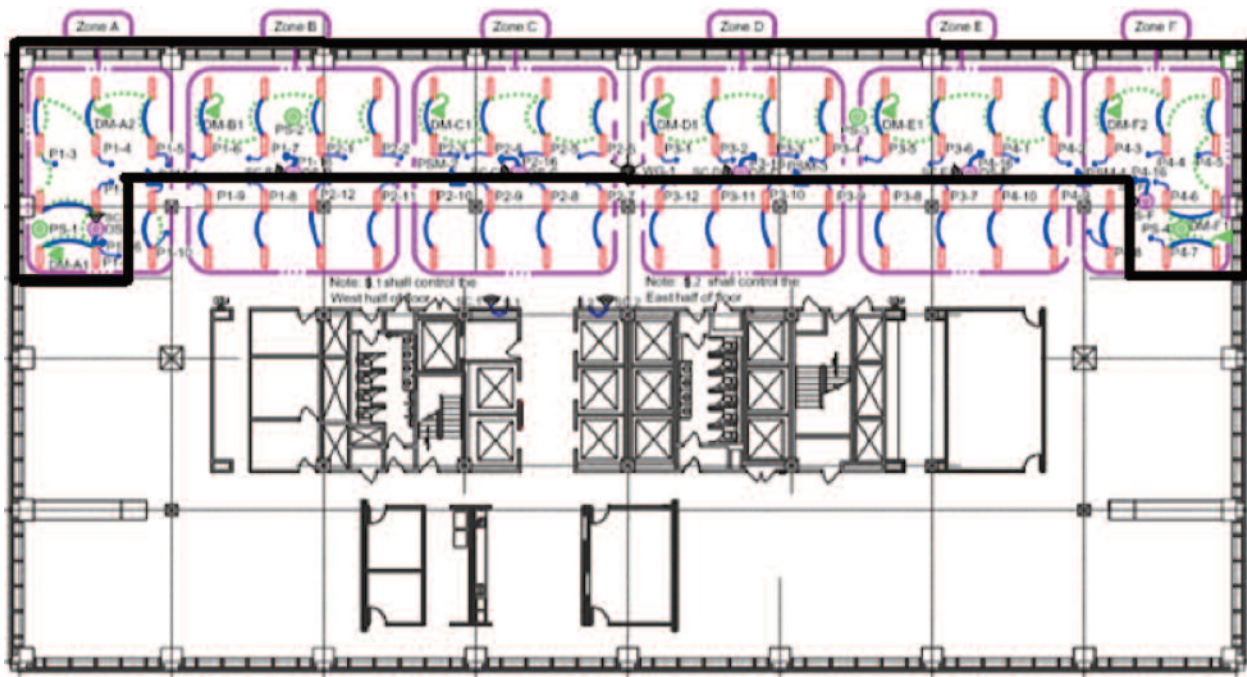

Figure 1
Once you have done so, you may direct your web-browser of choice to the following URLs to control each zone (See Figure 1 for Zone Location). For example:
The occupancy zones are labeled A through F (example shown in Figure 1). Below is what to expect when controls are left in the AUTO position:
9.4.2 Figure 1 outlines all daylight dimming zones with a heavy black line. These lights dim according to light levels from daylight levels. If there is ample daylight (bright), then the lights will dim. If the sun is at a low level (overcast), then the lights will increase in brightness. These light levels are detected by one of four light sensors in the ceiling, labeled as “PS-(1-4)” in Figure 1.